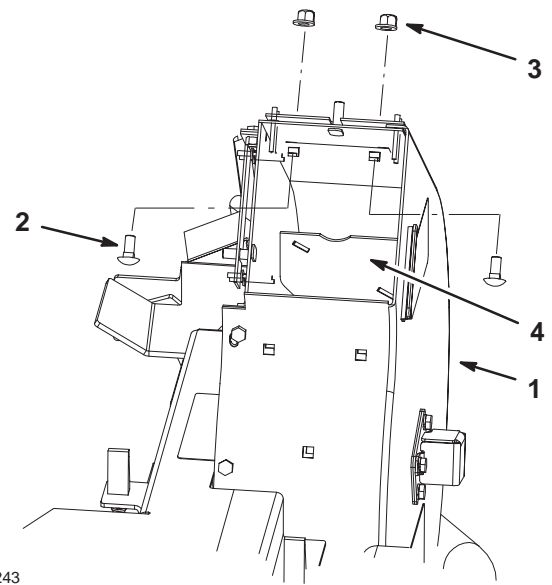

Figure 41
7. Loosely install 2 bolts into the liner and the blower (Fig. 41).